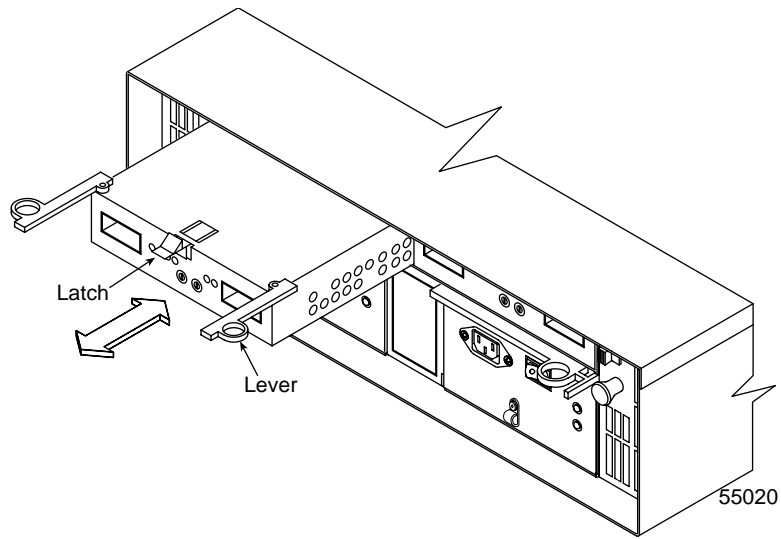

Figure 4-8 Removing and Installing an Environmental Status Module
6. Wearing antistatic protection, push down on the latch centered above the environmental status module. The levers will pop out of the locked position (see Figure 4-8).